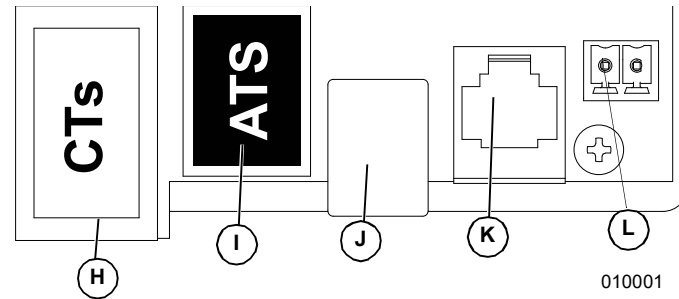

Figure 5-9. Accessory Ports
2. See Figure 5-9. Connect Cat 5 cable to CT input jack (H).